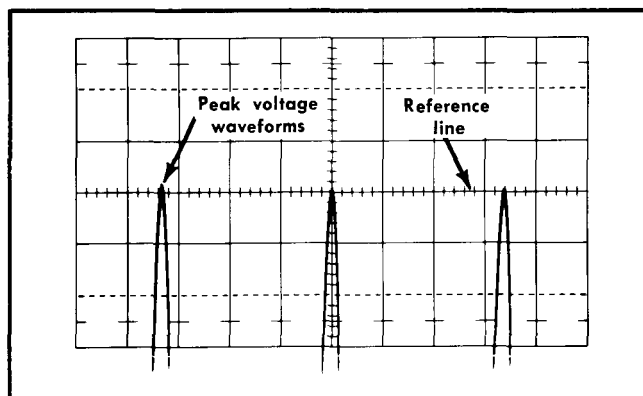

Fig. 6-25. Illustrating method of peak line voltage measurement; Type W plug-in vertical deflection factor 1 V/cm; sweep rate 5 milliseconds/cm.
n. Adjust the autotransformer output until the tips of the waveforms shown on the test oscilloscope reach the reference line established previously by the Type W. (See Fig. 6-25 for typical display). The test oscilloscope is now indicating 183 peak VAC at the autotransformer output, or 130 volts RMS.
t. Adjust the autotransformer output until the tips of the waveform shown on the test oscilloscope reach the reference line established previously by the Type W. (See Fig. 6-25 for typical display). The test oscilloscope is now indicating 147 peak VAC at the autotransformer output, or 104 volts RMS.